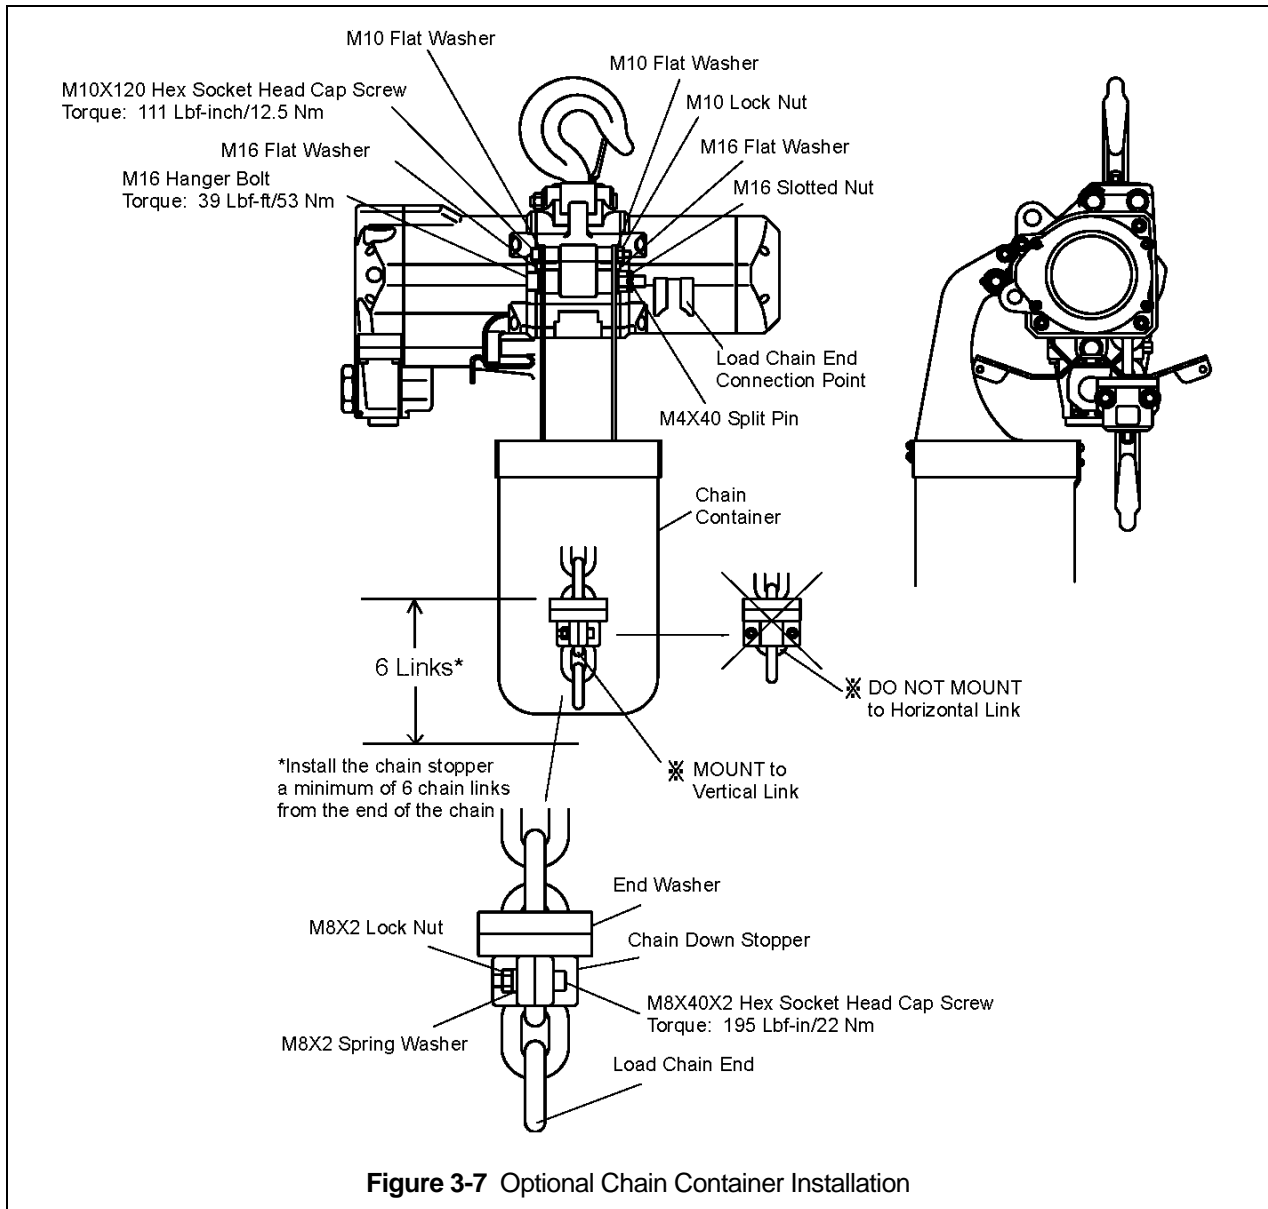

Figure 3-7 Optional Chain Container Installation
3.11.1 For installation of the optional bag style chain container refer to Figure 3-7 and perform the following:
- Make sure all end stoppers are installed correctly. See Figure 3-7 and section 7.3.